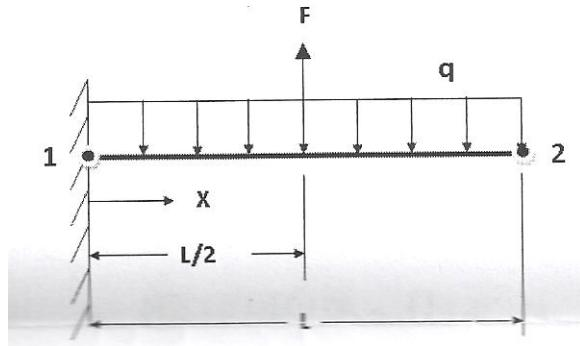

Figure 4b
- B A beam element of length L and constant E and I is shown in Figure 4B. If the uniform distributed load (q) and concentrated force (F) act on the beam as 8
shown in Figure 4b, compute the equivalent consistent nodal force at node 2.